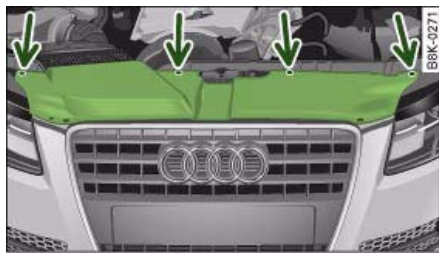

Fig. 246 Trim panel: Attachment points are marked by arrows
- Remove the screws ⇒ *fig. 246* that secure the trim panel to the lock carrier and detach the trim panel.